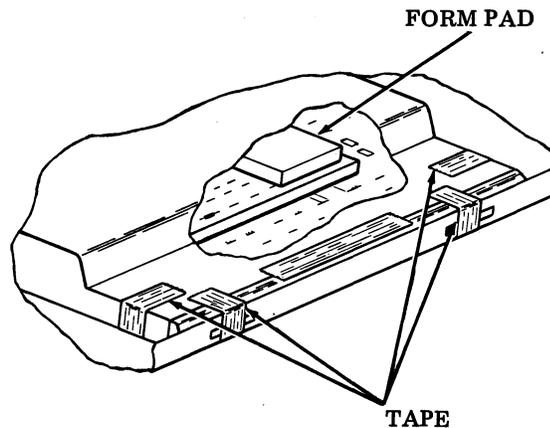

Fig. 3
3.06 A packing detail (foam pad) is located under the black plastic logic card cover. This detail is to be left in place. See Fig. 3.
3.07 Remove tape securing the black plastic logic card covers. See Fig. 3.